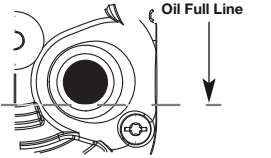
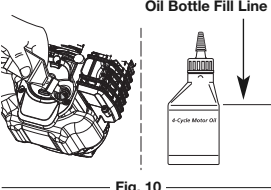

Fig. 7
Fig. 10
5. Look into the oil fill hole, use a flashlight if needed. The oil should be just touching the inner most thread (Fig. 7).
6. If the oil level is not touching the inner most thread on the oil fill hole, add a small amount of oil to the oil fill hole and recheck (Fig. 7). Repeat this procedure until the oil level reaches the inner most thread on the oil fill hole.
- NOTE:** Use the bottle and spout saved from initial use to measure the correct amount of oil. The top of the label on the bottle measures approximately 3.04 ounces (90 ml) (Fig. 10). Check the level, See Checking the Oil Level. If the level is low, add a small amount of oil and recheck. Do not overfill (Fig. 7).